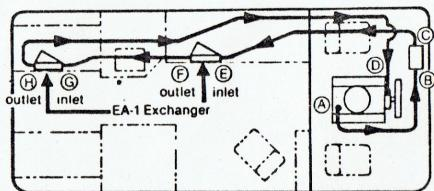

FIG. 2
1. For best heating results, install a minimum of one (1) EA-1 heat exchanger for average van heating requirements. In extreme cold conditions, a second exchanger can be added as shown above.
A. Locate exchanger(s) to obtain the most even distribution of heat (see fig. 2). Ideal location is in the toe space beneath a seat or cabinet. BE SURE THE AIR INTAKE IS NOT BLOCKED OR STARVED. DO NOT MOUNT OUTSIDE OR UNDER THE VEHICLE.
B. Position exchangers for shortest possible hose routing that avoids kinks or sharp bends. The exchanger fitting CLOSEST TO VEHICLE FLOOR IS INLET connects by hose to existing heater outlet as shown at "C" in fig. 2). The OUTLET fitting on the other end of the exchanger will then be higher (farthest from floor). This connects by hose to the next heat exchanger (or returns to vehicle's engine at "D" in fig. 2). Exchanger(s) may be positioned in any attitude as long as the lowest fitting is the water inlet.
4. Connect hose and clamps (see specified types below) to exchanger(s) before disconnecting and discarding the existing hose between "C" and "D" in fig. 2. USE EXTREME CARE WHEN ATTACHING HOSES TO EXCHANGER INLET AND OUTLET NIPPLES — TWISTING OR BENDING WILL BREAK THE SOLDER CONNECTIONS AND CAUSE LEAKS. BE SURE THAT HOSE PASSING THROUGH PANELS OR FIREWALL ARE NOT SUBJECTED TO CHAFING OR CUTTING. DO NOT ALLOW HOSE TO LAY AGAINST HOT ENGINE BLOCK OR EXHAUST PIPES.